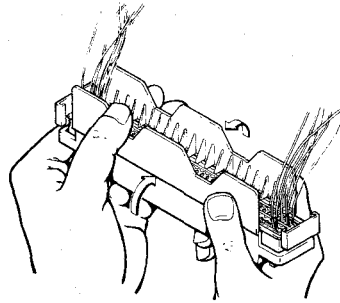

Fig. 43—Lift tool wings
2. Place insertion tool onto sealant box and lift tool wings to press module completely into sealant box. See Figure 43.